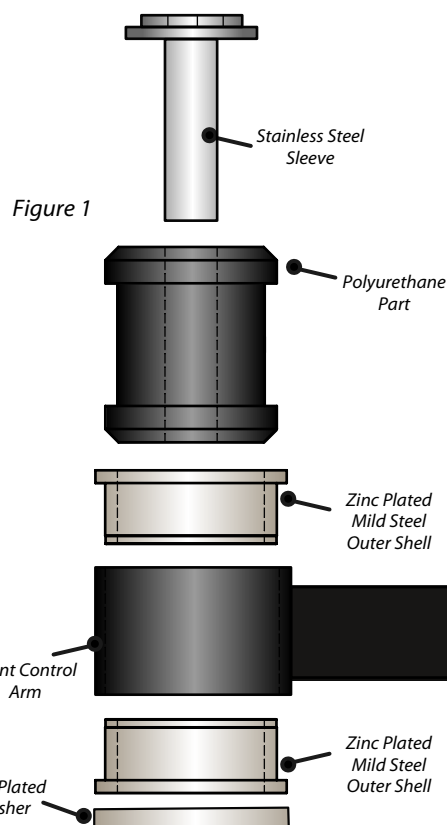

Figure 1
6. Fit the Stainless-Steel sleeve into the bushes. Fit washer on the opposing side of adjustable head as shown in figure 1.